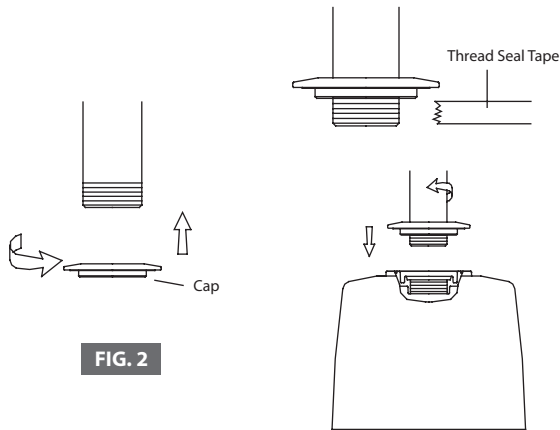

FIG. 2
3. Drive a cap on the pipe. (FIG. 2)